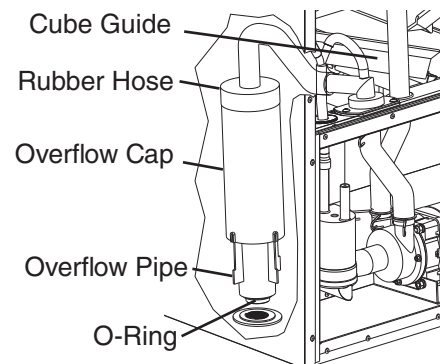

Fig. 6
- 7) Slide the cube guide to the right, then remove the rubber cap and sleeve covering the overflow pipe. See Fig. 6. Unscrew the overflow pipe. After the water tank has drained, reconnect the overflow pipe. Replace the rubber hose, overflow cap, and cube guide in their correct positions. **NOTICE! Make sure the O-ring is attached to the bottom of the overflow pipe and be careful not to cross thread the overflow pipe.**
- 4) Remove the front insulation panel, then slide the cube guide to the right. Remove the rubber cap and sleeve covering the overflow pipe. See Fig. 6. Unscrew the overflow pipe. After the water tank has drained, reconnect the overflow pipe. Replace the rubber hose, overflow cap, cube guide, and front insulation panel. **NOTICE! Make sure the O-ring is attached to the bottom of the overflow pipe and be careful not to cross thread the overflow pipe.**